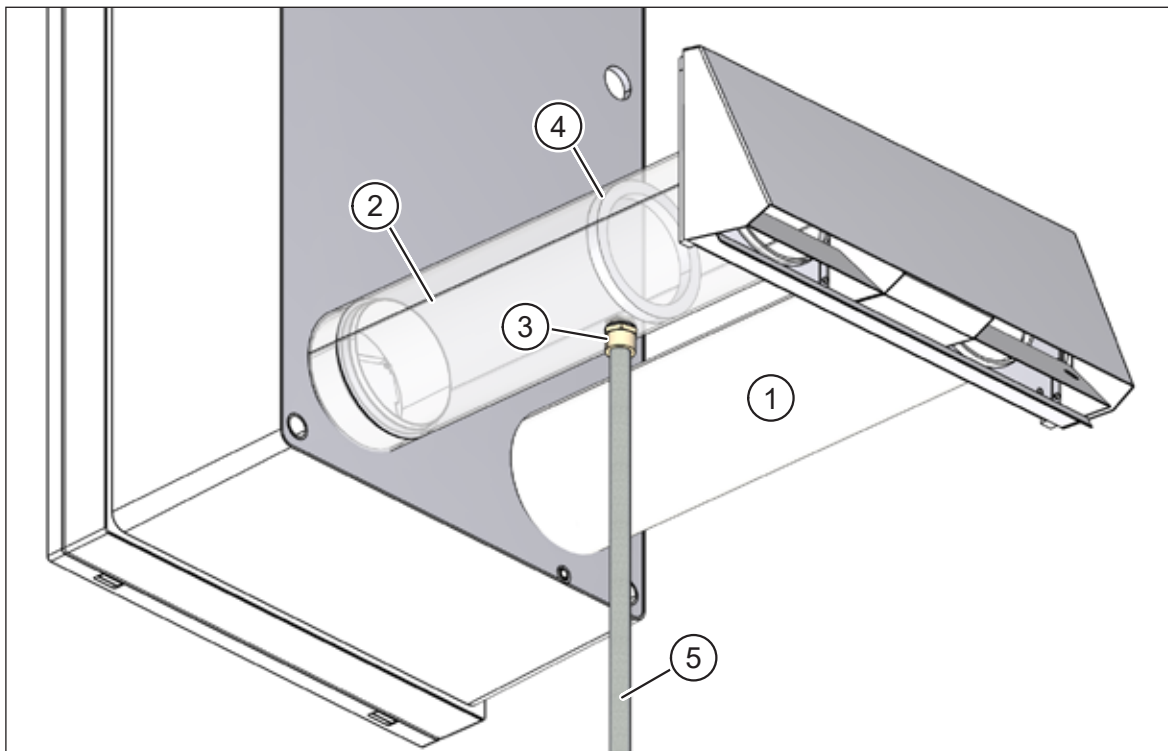

Fig. 30: Condensate drain on the exhaust air pipe
- Outdoor air pipe, DN 100, 0.5 m (item 1 in Fig. 30)
- Exhaust air pipe, DN 100, 0.5 m (item 2 in Fig. 30), with 1/2" male thread connection (item 3 in Fig. 30) and barrier (item 4 in Fig. 30) for retaining the condensate
- In cold regions, protect the condensate drain pipe (item 5 in Fig. 30) against frost, e.g. by running it behind the facade insulation.